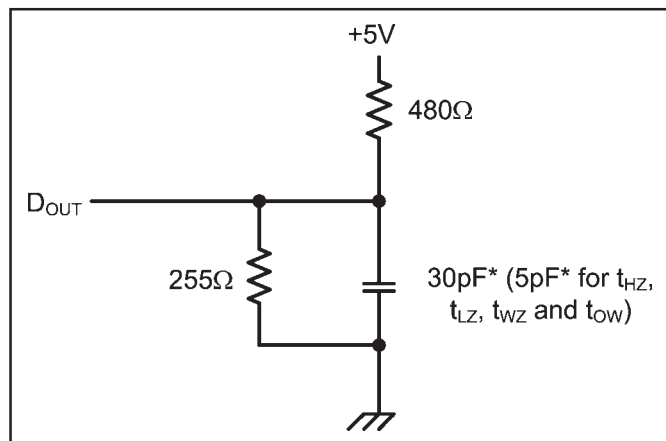

Figure 1. Output Load
7. Transition is measured $\pm 200mV$ from steady state voltage prior to change with specified loading in Figure 1. This parameter is sampled and not 100% tested.
Output Load	See Figures 1 and 2